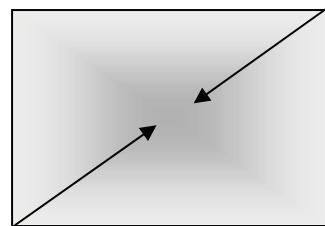

Figure 3
4. Roll the manure into a pile using the other two corners. See Figure 3.